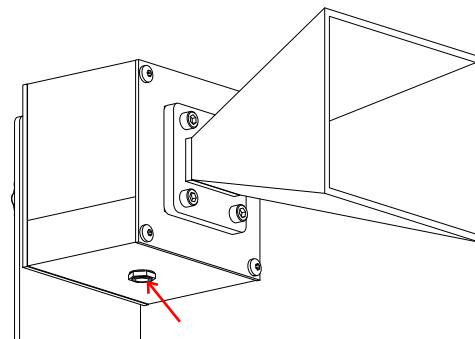

Figure 11: Position of power port.
1. Plug a power adapter cord into the port on the Transmitter's bottom panel (opposite the label), as shown in Figure 11, and plug the power adapter into a standard 115 or 220/240 VAC, 50/60 Hz outlet. The LED will light up when the unit is on.